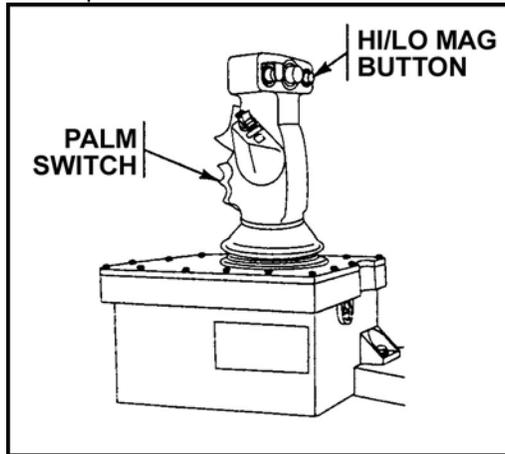

Figure 3. Commander's hand station.
- (2) Squeeze and hold the palm switches on the commanders hand station (CHS)(Figure 3).